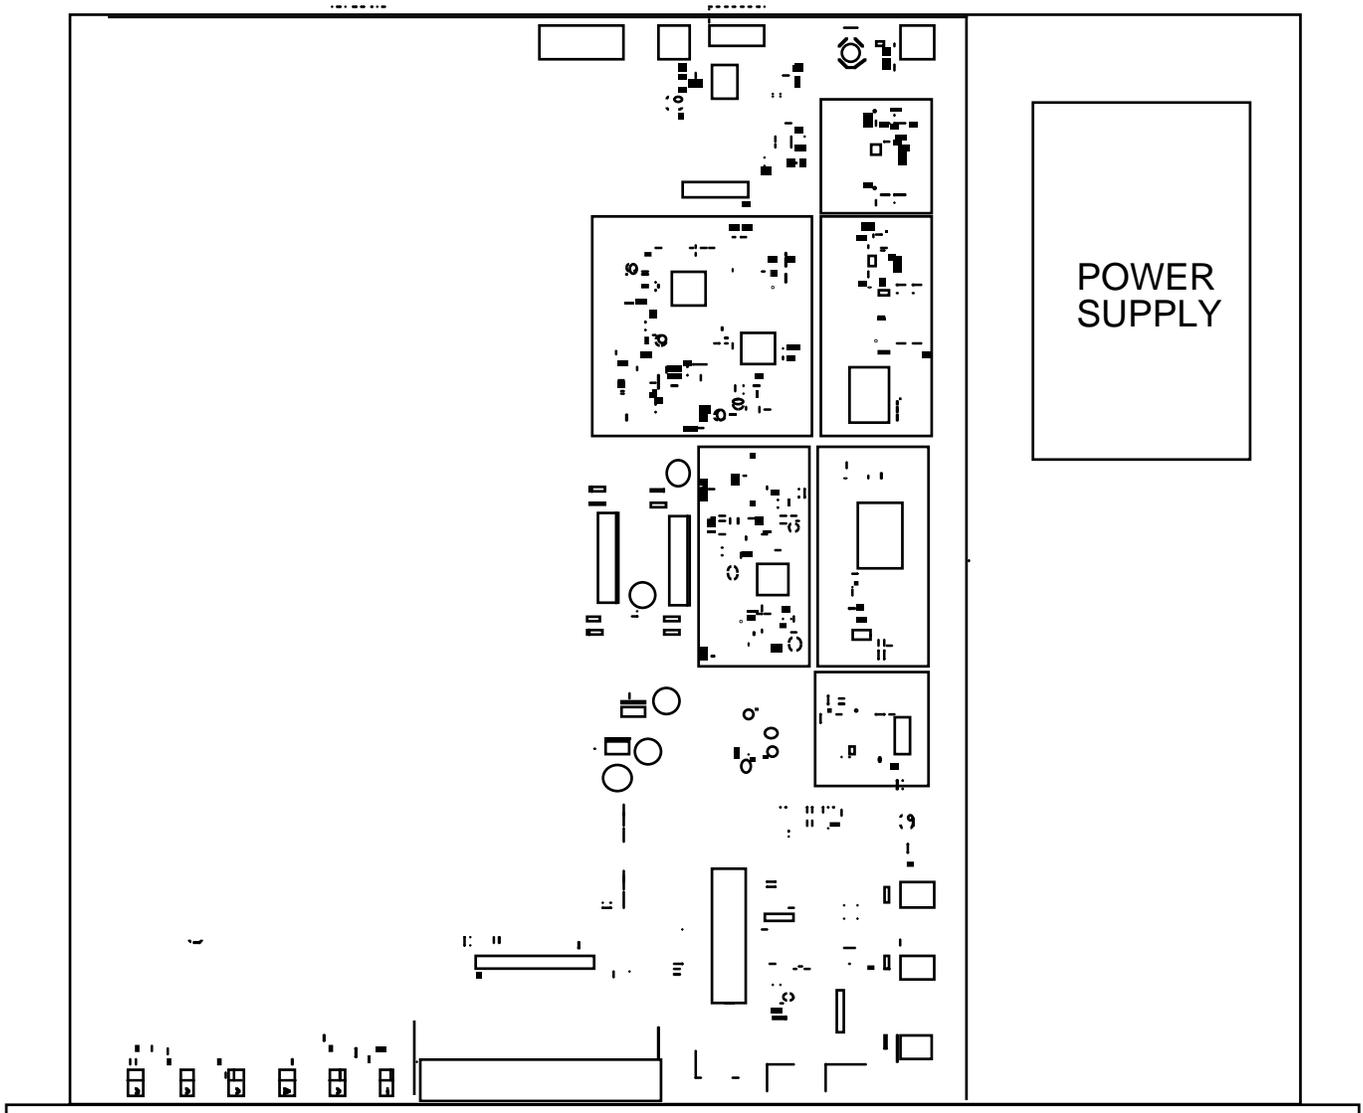

FIGURE 2.1 2016-05 Mechanical Assembly
The 2016-05 consists of one RF/Controller PCB housed in a 1 RU (1 3/4 inch high) by 16 inch deep chassis. A switching, ± 12 , +24, +5 VDC power supply provides power for the assemblies. The 2016-05 can be secured to a rack using the 4 holes on the front panel. Figure 2.1 shows how the 2016-05 is assembled.
7. Option L only - To insert LNB +24 VDC on the RF center pin install 0.5A fast blo fuse in F1 and check that DS8 lights yellow (Figure 2.1)